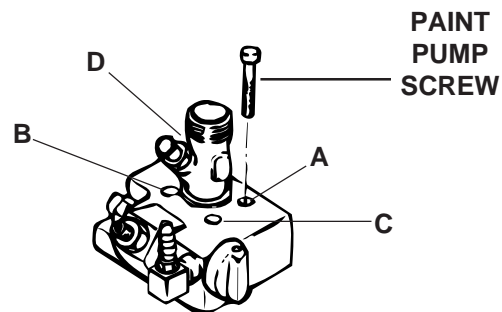

Figure 17-Tightening Paint Pump Screws.
6. Put the paint pump back on. Before installing the 4 paint pump screws, put Anti-Seize Lubricant on the screw threads. (This prevents the steel screws from galling and seizing in the aluminum hydraulic pump). Now install the 4 new paint pump washers and 4 screws using a 6 millimeter allen wrench (see Figure 17).